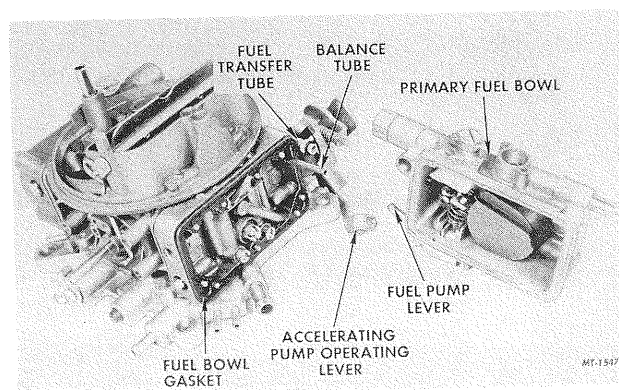

FIG. 26 Removal or Installation of Primary Fuel Bowl
4. Remove four fuel bowl screws and primary fuel bowl assembly by sliding straight off transfer tube (Figure 26).